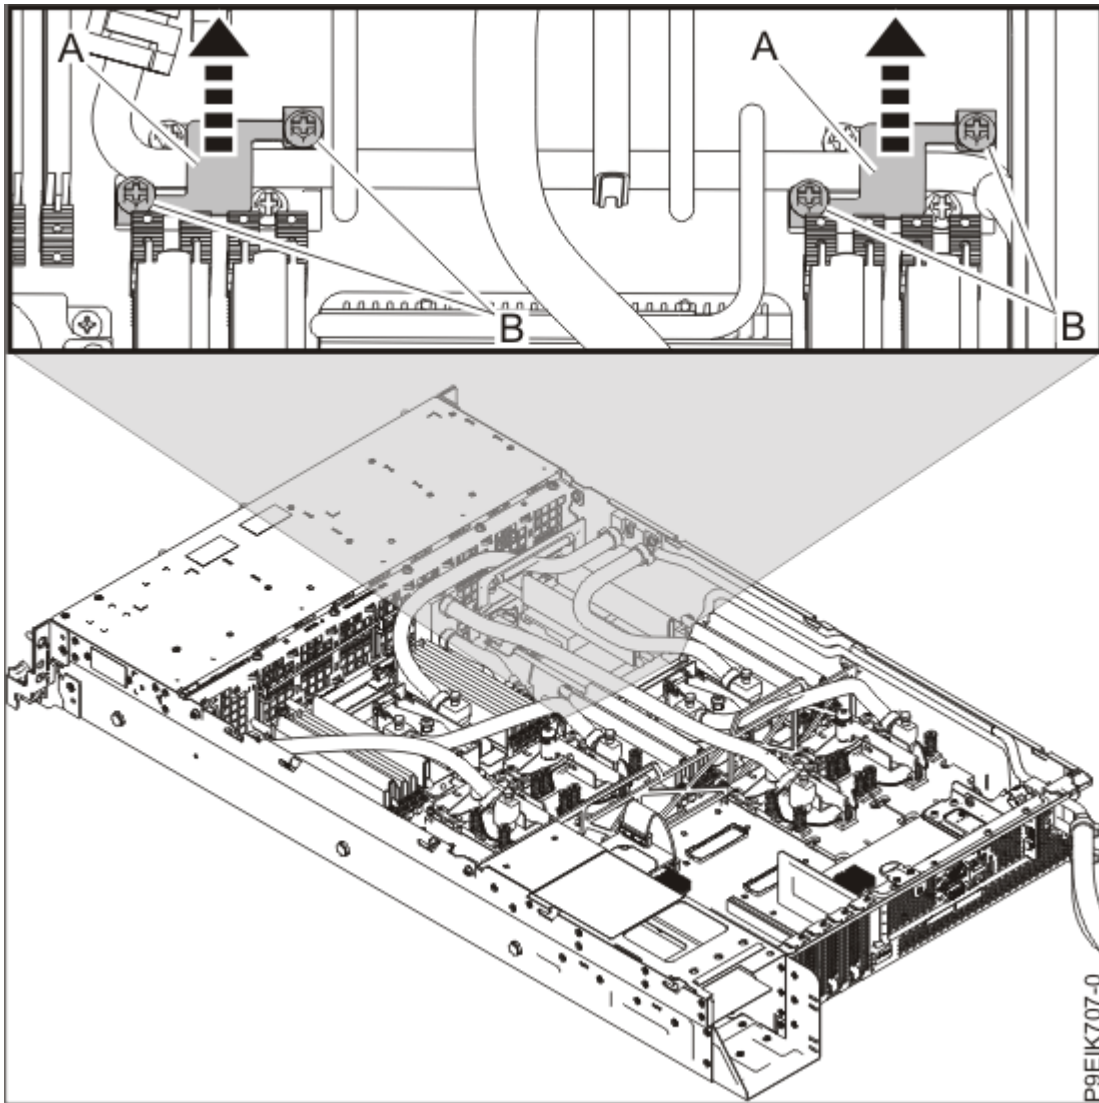

Figure 8. Removing the pipe holders
5. Remove the two pipe holders **(A)** near the middle of the system as shown in Figure 8 on page 12. Loosen the four screws **(B)** and lift the holders off the pipes.